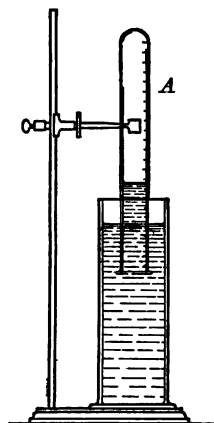

FIG. 21
**29. Measurement of gas volumes.** *a.* Partly fill a graduated tube *A* (Fig. 21) with water and invert it in a vessel of water so that the level of the liquid in the tube is above that of the liquid in the vessel. Clamp it in this position and read the volume of the inclosed air. What conditions affect the volume of a gas? What are the conditions adopted as standard in the measurement of gases? From the volume as measured above, calculate the volume under these conditions.